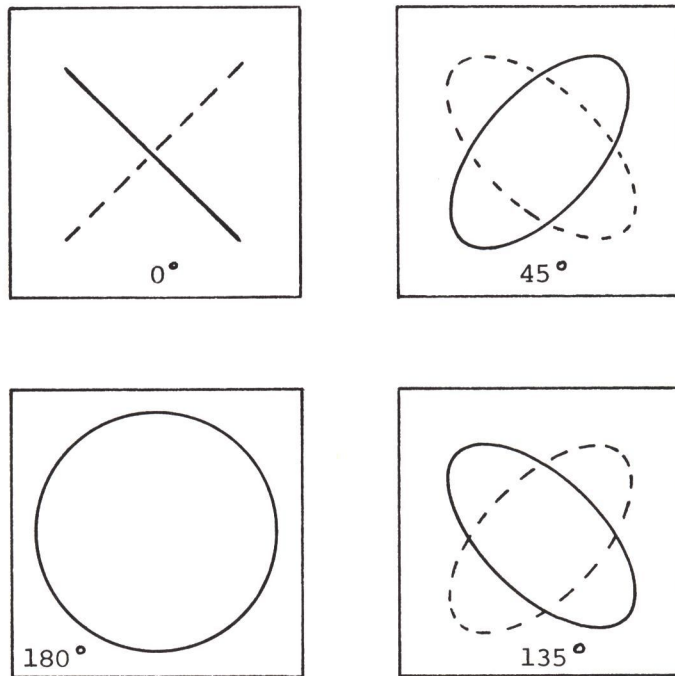

Fig. 1
3. Connect the vertical input of an oscilloscope across this channel. Connect the horizontal input (or channel 2 of a two trace scope triggered from channel 1 zero crossing) to the Right Channel output. Adjust the play head azimuth for in-phase display of the two channels. Refer to Figure 1 below for typical phase displays.